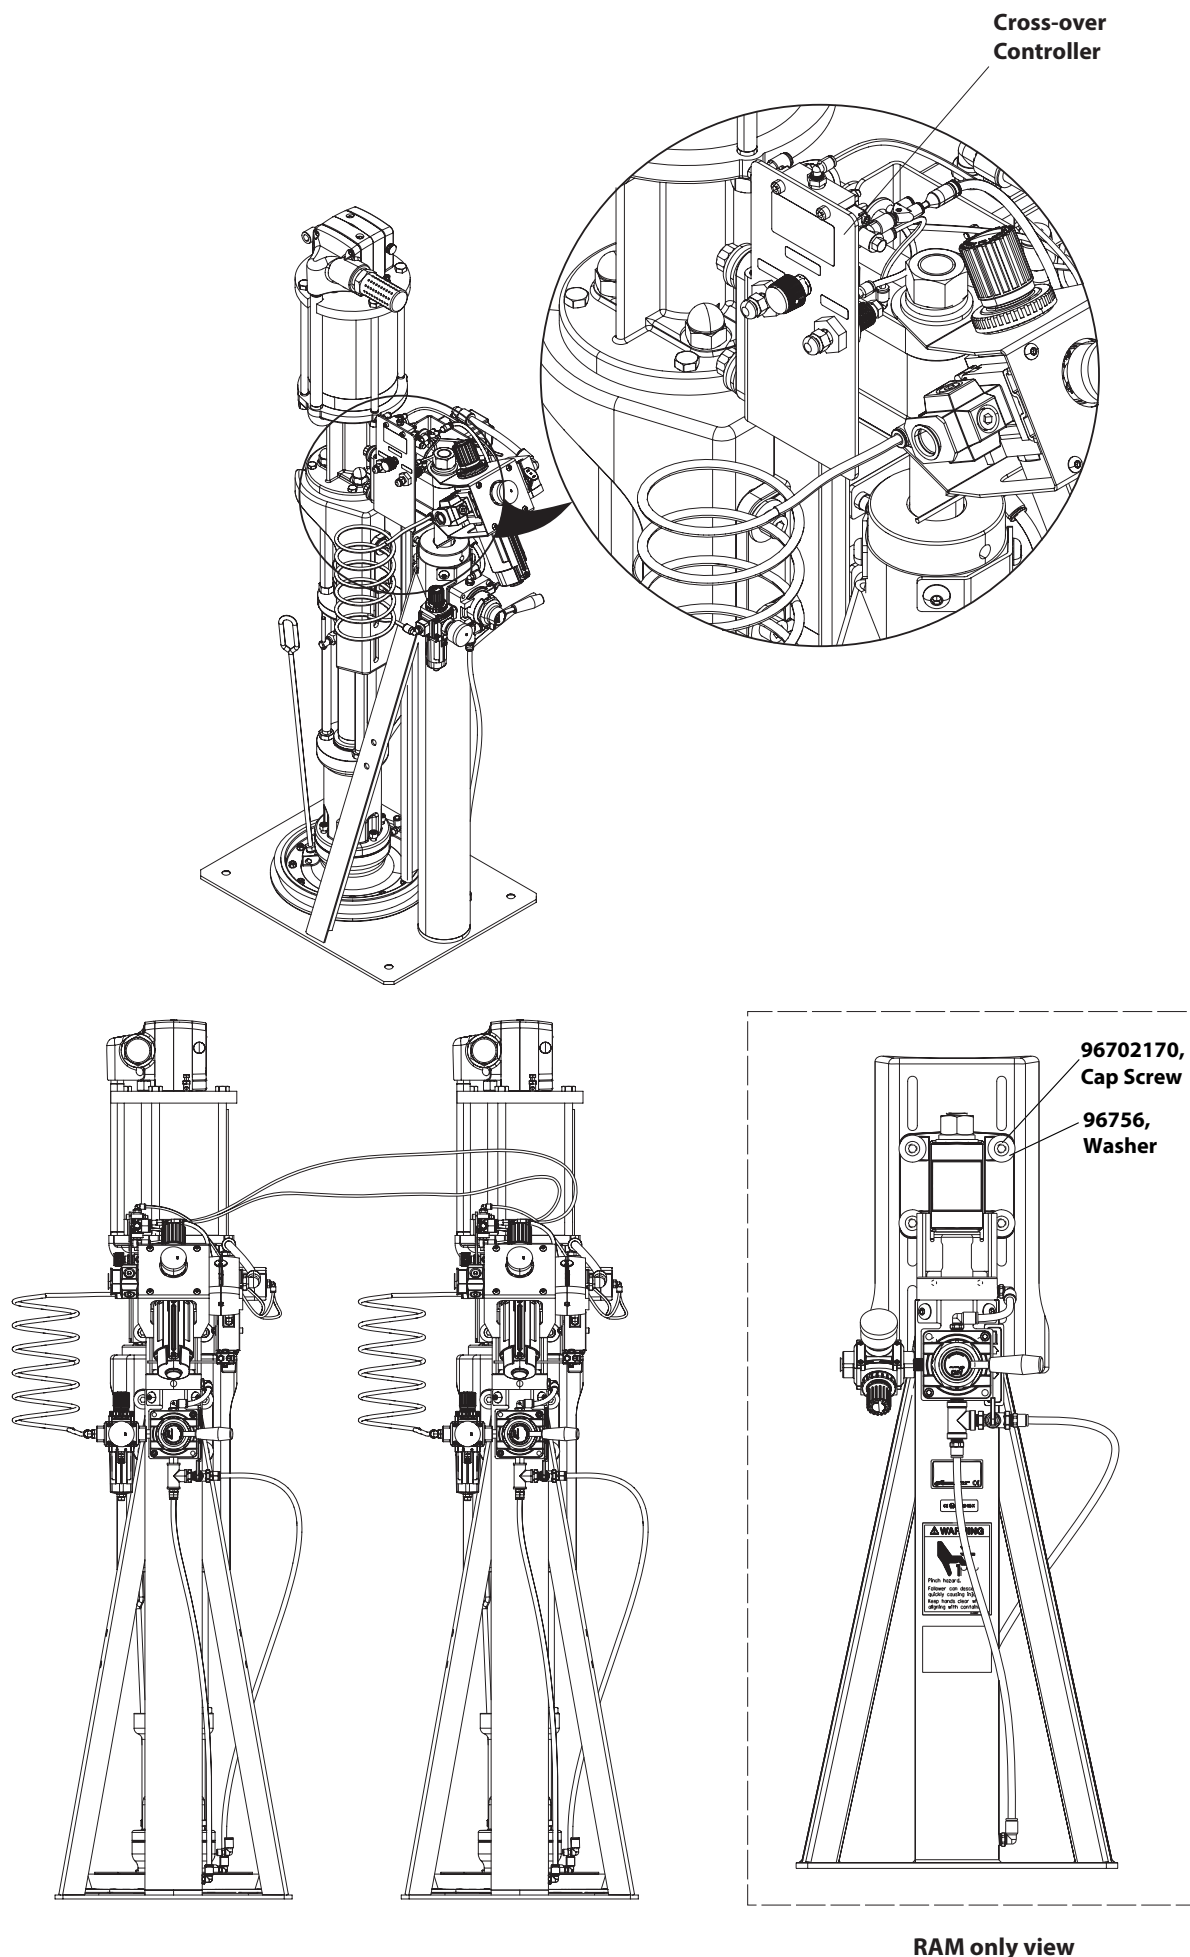

Figure 6
2. Install Cross-Over Controller assembly (67449) for RM051S-XXX-XX-B Ram (see Figures 6 & 7, page 5 & 6).
- b. Attach Cross-Over Controller assembly to upper bolt pattern of Ram Head (Ref PN 97543-1 on Ram Assembly) using (16) Washers, (17) Cap Screws, (18) Lock Washers, and (19) Nuts (see figure 6, page 5).